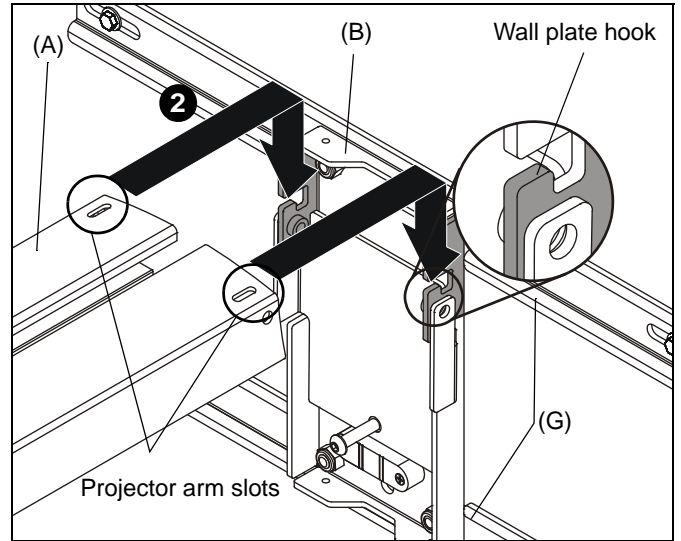

Figure 11
2. Lift short throw projector arm (A) up to wall plate (B) and place projector arm slots over wall plate hooks. (See Figure 11)